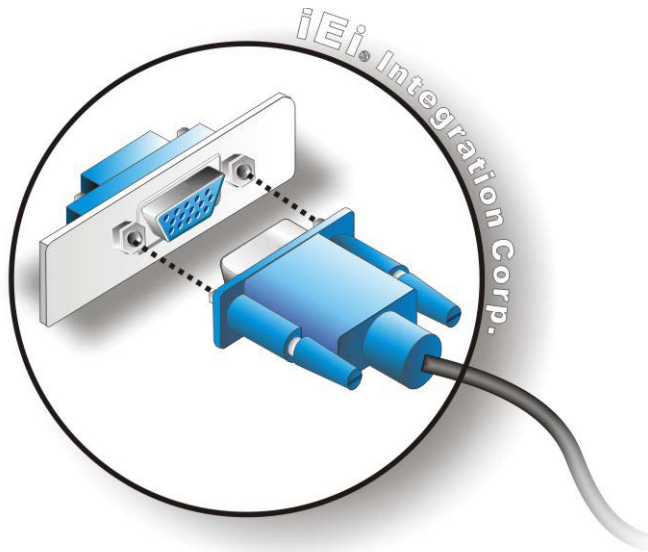

Figure 3-22: VGA Connector
Step 3: **Insert the VGA connector** Once the connectors are properly aligned with, insert the male connector from the VGA screen into the female connector on the TANK-871-Q170i series. See **Figure 3-22**.